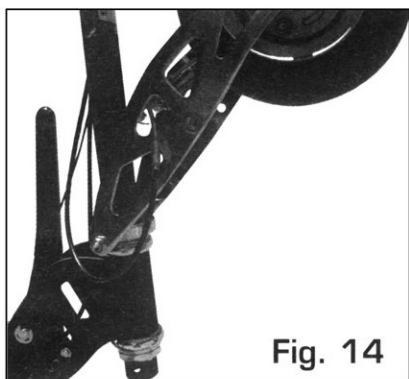

Fig. 14
2. Rotate the complete front wheel and fork assembly upwards so that the large bearing lock nuts are accessible (Fig. 14).